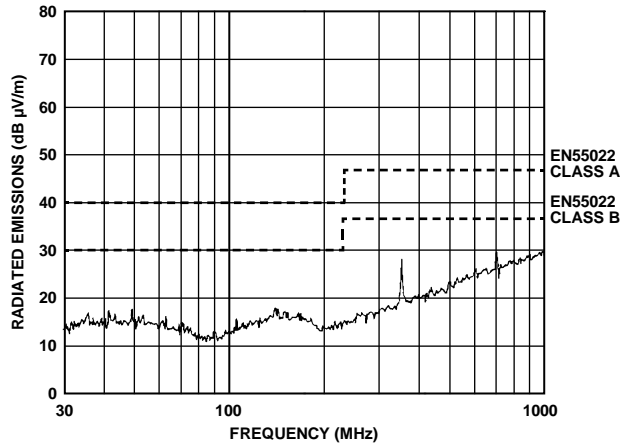
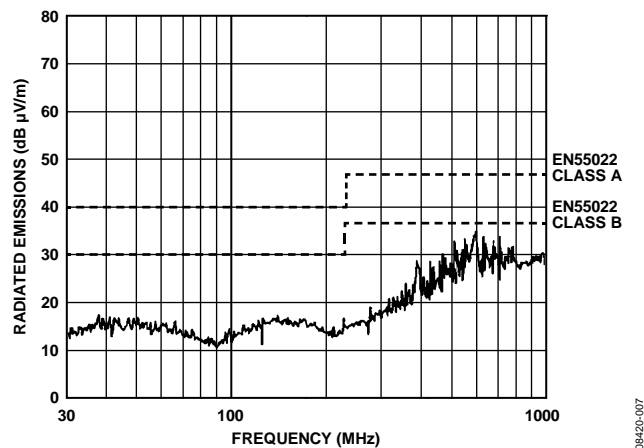

Figure 4. Horizontal Scan from 30 MHz to 1000 MHz (Corresponds to Worst Case for Table 4)
Figure 7. Horizontal Scan from 30 MHz to 1000 MHz (Corresponds to Worst Case for Table 7)
The EVAL-ADM2582EEBZ and EVAL-ADM2587EEBZ evaluation boards are configured and tested with 3.3 V V_{CC} or 5.0 V V_{CC} power supplied to the ADM2582E and ADM2587E devices, with the power supplied from the ADP667ARZ regulator output to V_{CC} (Pin 8). The ADP667ARZ regulator input is supplied from a standard 9 V battery. All EN55022 radiated emissions testing is performed with 9 V batteries. Testing is performed at a 500 kbps clock (ADM2587E) or 16 Mbps clock (ADM2582E), with the clock supplied by the on-board oscillator. The ADM2582E/ADM2587E transceiver is connected in full-duplex mode and the bus pins are loaded with a 60 Ω termination resistor. Measurements are carried out in a semi anechoic chamber at 10 m from 30 MHz to 2 GHz. Figure 4 to Figure 7 show the results of the worst case horizontal scans, and Table 4 to Table 7 show the tabulated quasi-peak (QP) results.